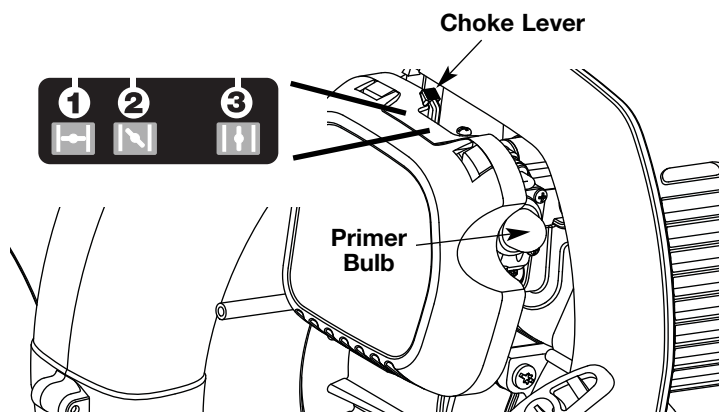

Fig. 14
3. Fully press and release the primer bulb 10 times, slowly. Some amount of **fuel should be visible in the primer bulb and fuel lines** (Fig. 14). If you can't see fuel in the bulb, press and release the bulb as many times as it takes before you can see fuel in it.
4. Place the choke lever in **Position 1** (Fig. 14).
**IF...** the engine does not start, place the choke lever in **Position 2** (Fig. 14) and pull 4 times in smooth and rapid pulls to start engine.
6. Place the choke lever in **Position 2** (Fig. 14) and allow the engine to warm up for 5–10 seconds.
7. Place the choke lever in **Position 3** (Fig. 14). The unit is ready for use.